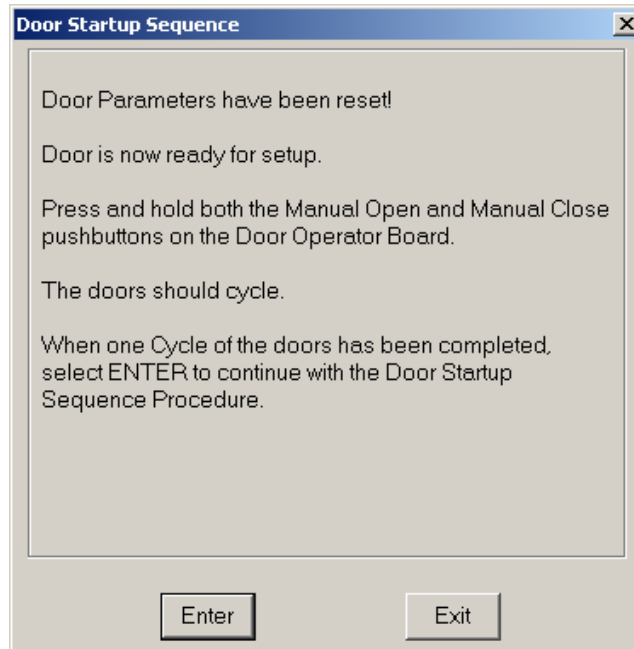

Figure 32
3. A third **Door Startup** window replaces the second **Door Startup** window and prompts the user that the Door Parameters have been reset, that the Door is ready for setup. The third Door Startup window then instructs the user to press and hold both the Manual Door Open and Manual Door Close pushbuttons at the same time. These two (2) pushbuttons are located beside connector CON1. Upon simultaneously pressing these pushbuttons, the door should begin to cycle. The user should allow the door to cycle one complete time. (Usually the Door will cycle 1 – 1.5 times and stop). Once this is done, the user will select the ENTER pushbutton using the computer's pointing device and button and progress to the next step in the door Startup Sequence procedure. If it is not desirable to continue, but desirable to exit the Door Startup then position the cursor on the **EXIT** button and click once with the pointing device. Refer to Figure 32.